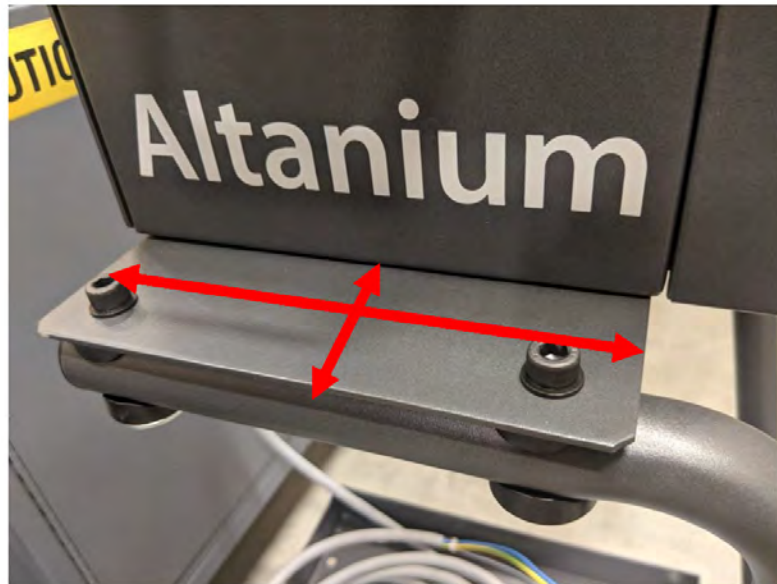

Figure 16-51 Mobile Stand Brakes and Mounting Holes
5. Put the Neo5 in the center of the top plate (Figure 16-51), so that the mounting holes in the top plate align with the threaded holes at the bottom of the Neo5.